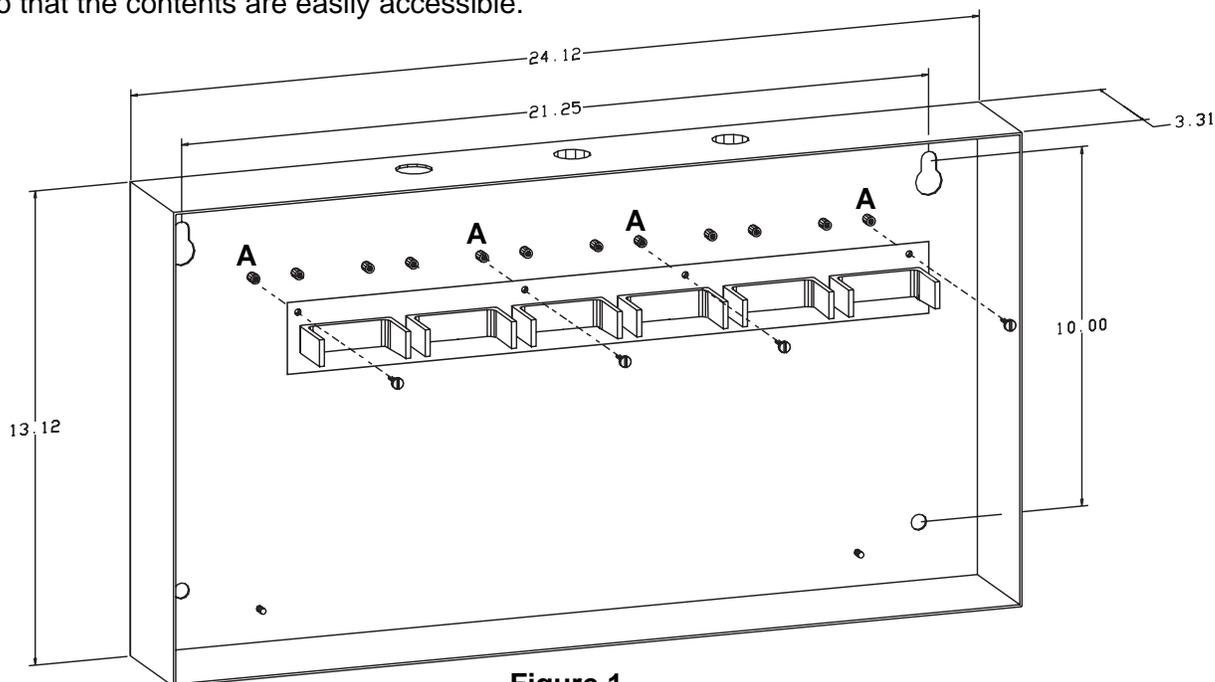

Figure 1
4. (Refer to Figure 1.) Place the telephone cradles plate over the standoffs (marked **A**) located near the top of the enclosure.